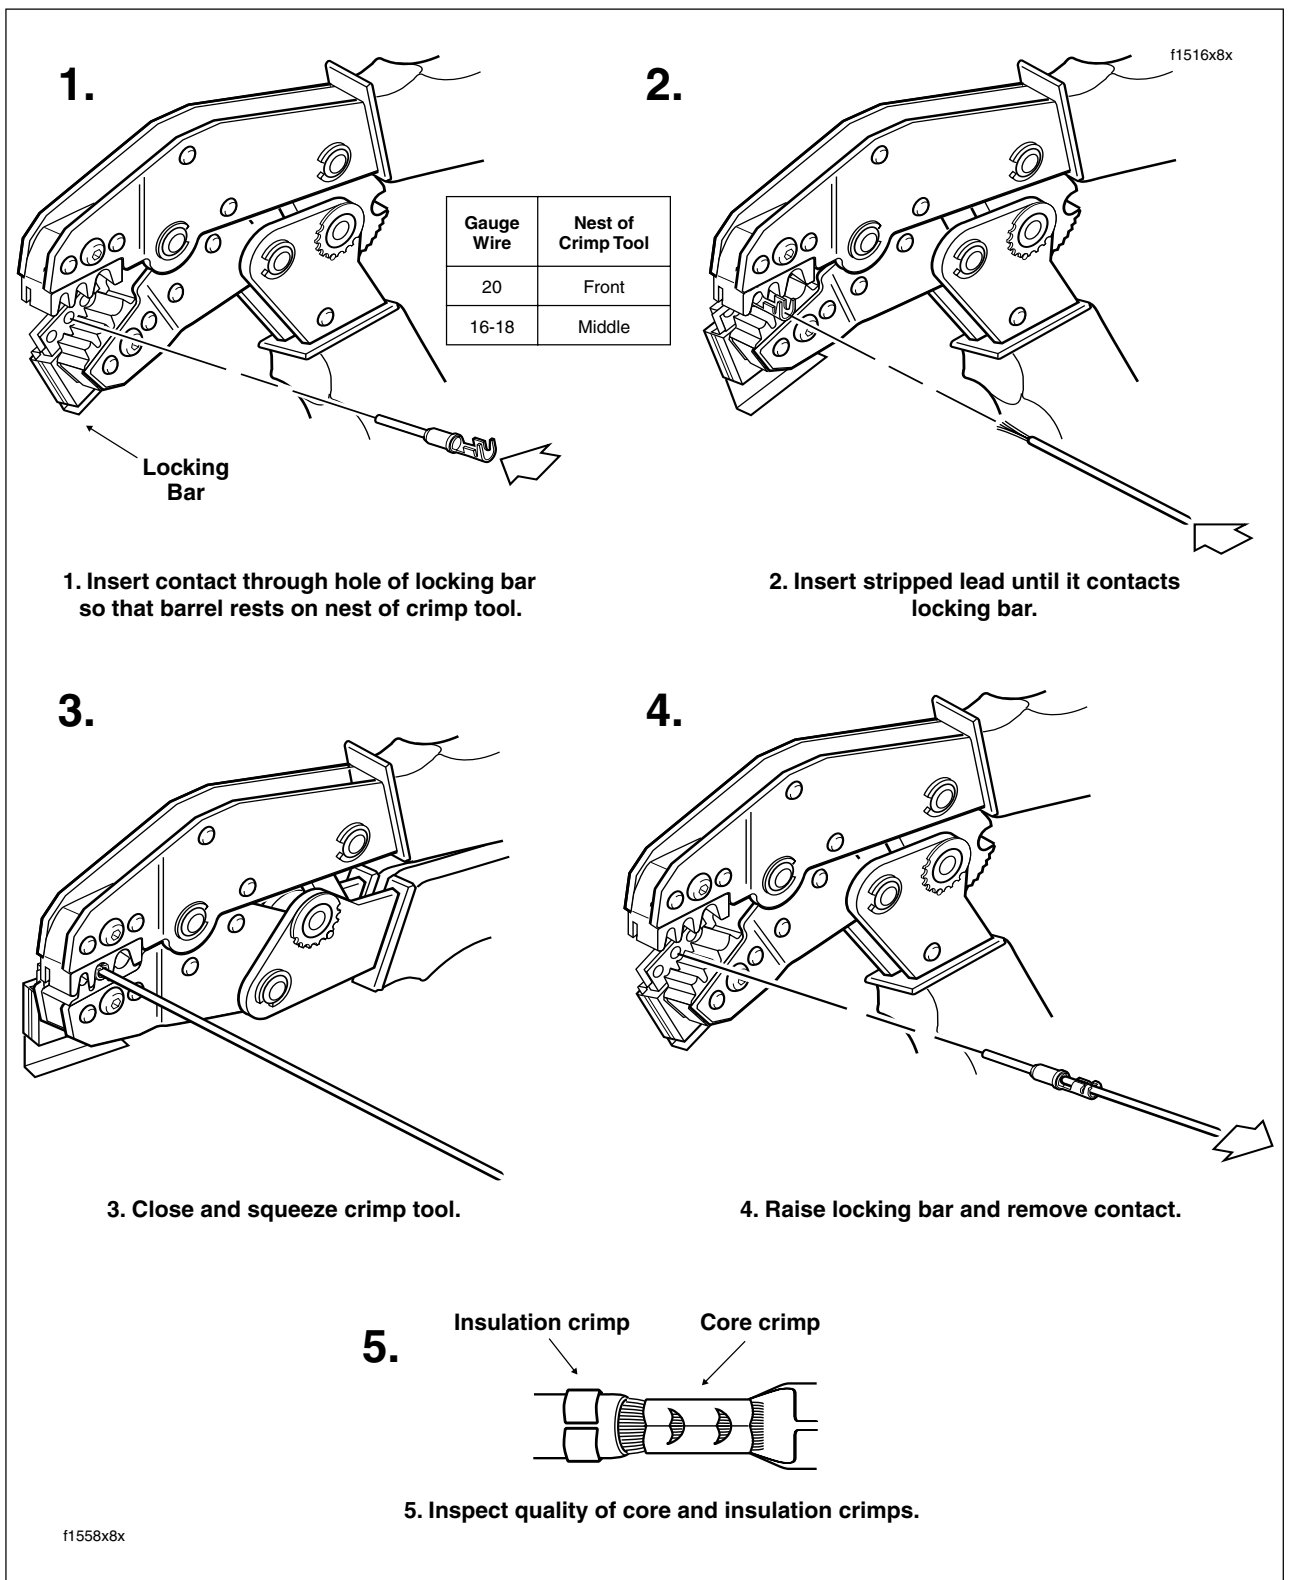

Figure 8-23. Deutsch Crimping Procedure
2. Squeeze the handles to cycle the crimp tool to the fully open position. See Figure 8-23.